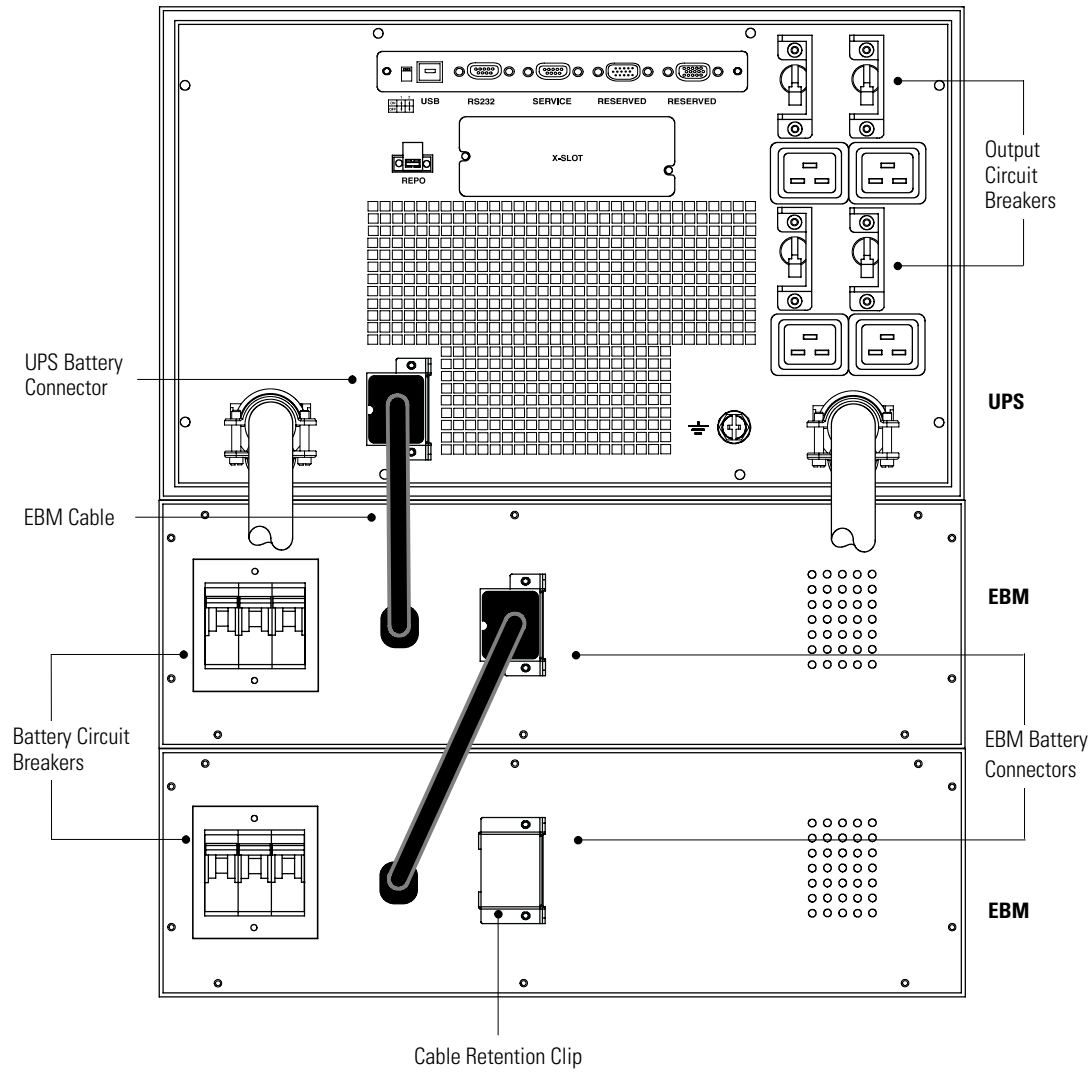

Figure 26. Typical EBM Installation
1. Verify that the output circuit breakers on the UPS rear panel are in the OFF (O) position (see Figure 26 on page 48).
1. Verify that all battery circuit breakers are in the OFF (O) position (see Figure 26).
4. Plug the EBM cable(s) into the battery connector(s) as shown in Figure 26. Up to four EBMs may be connected to the UPS.